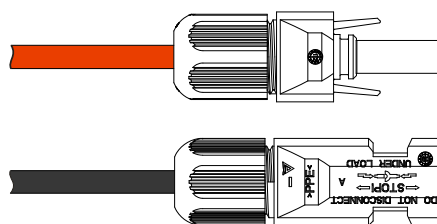

Figure3-17 Tighten the sealing nuts
- Step 4 Tighten the sealing nuts of positive connector and negative connector to the corresponding insulation crusts respectively, as shown in Figure3-17.